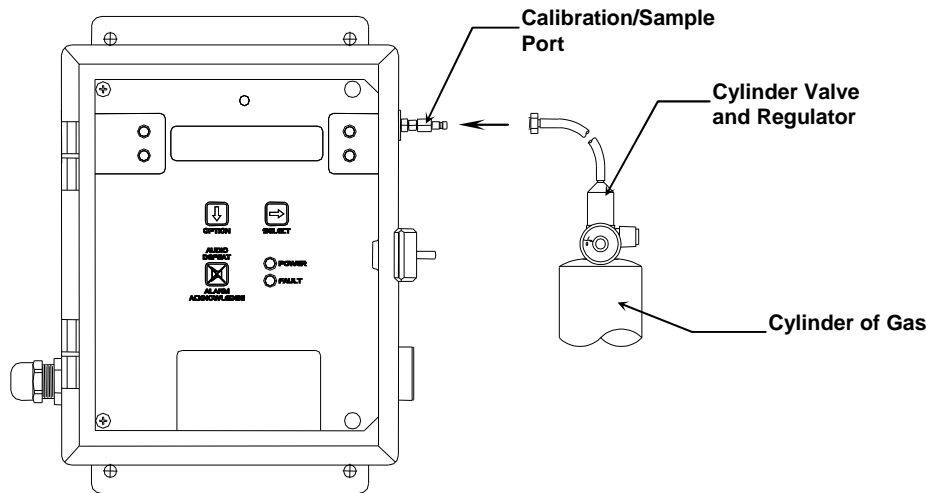

Figure 7: Connection of Calibration Gas Cylinder
- Press the **SELECT** switch, the gas & current reading are displayed in upper portion of display. The mV reading & "LowCal Q" is displayed in the lower portion of display. This is the LowCal setting, *usually zero*, clean air must be supplied to the sensor. This reading needs to be at or near zero. If it is not then a cylinder of clean 20.9 air should be used. See Figure 7 if this is required.
- Apply calibration gas to sensor. See **Figure 7**. After about 1 minute and mV reading has stabilized.